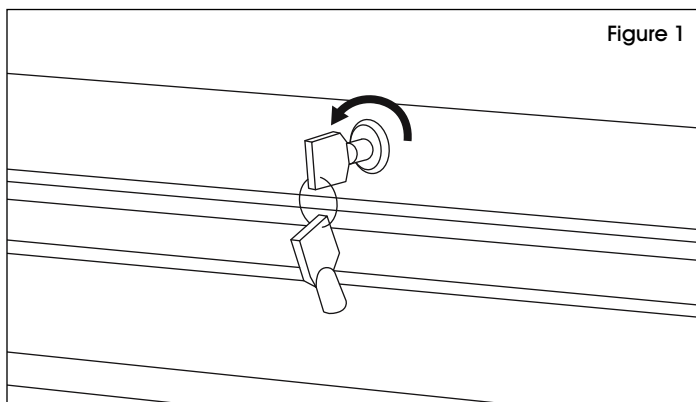

Figure 1
1. Unlock cabinet with provided key. (See Figure 1)
(Voir Figure 1)